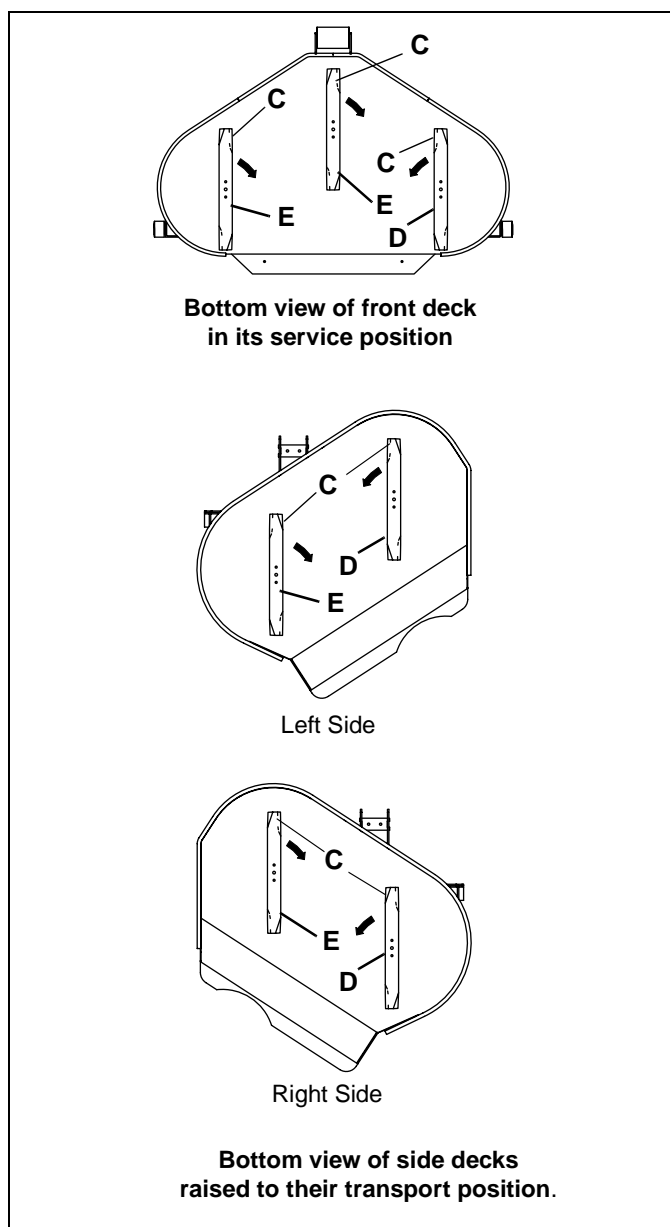

Figure 4C
5. Identify the three clockwise rotation (D) and four counter-clockwise rotation (E) blades. The blades for clockwise rotation are installed on the left front deck motor, the outside left wing deck motor and the inside right wing deck motor. (Rotation is determined by normal motor rotation viewed from top of deck)
6. Install blades so cutting edges (C) face the direction of rotation as shown in Figure 4C. Air vane of blade must face in toward deck housing.